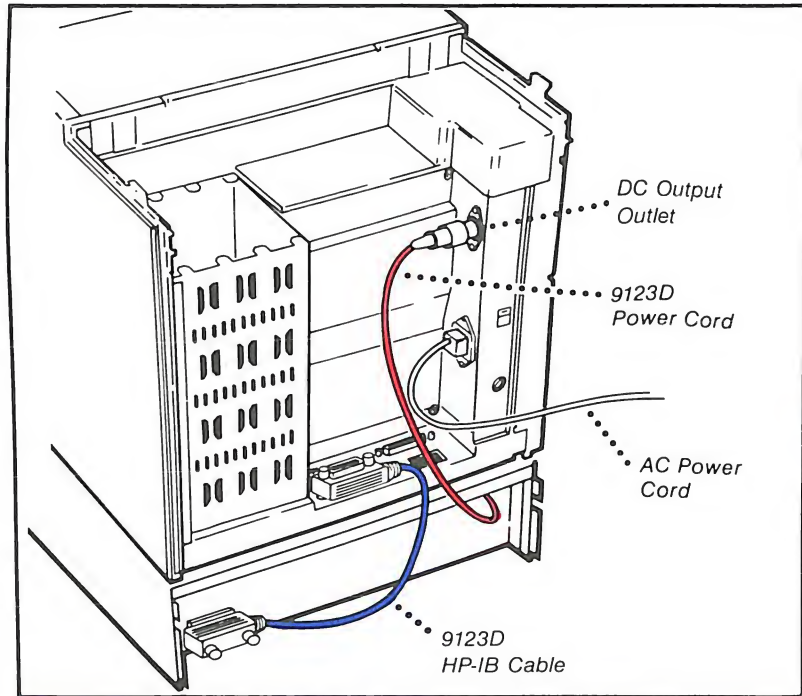

Figure 4-8. Display Unit and HP 9123D Connected
- Connect the HP-IB cable to the HP-IB connector on the display unit, and to the HP-IB connector on the disc drive, as shown in blue in Figure 4-8. (The connection points are labeled on the back panels of the disc drive and display unit.) Use your fingers to tighten the screws on each cable end to the connection.
9. Plug the power cord into the DC OUTPUT outlet on the back of the display unit, as shown in red in Figure 4-8.